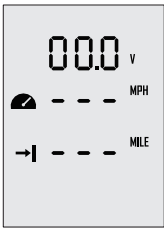

Figure 6-1
**Step1:** In power-on status, long press the “M” button to enter the preference setting page as shown in Figure 6-1. Users can choose display items based on personal needs and preference.
**Step2:** On the preference setting page, the blinking item is the object waiting to be set. Press the “ ▲ ” button to view options for the object item. For example, in Figure 6-1, if “V” is blinking on the preference setting page, it means that “V” has other alternate options. Just press the “ ▲ ” button, and “V” will switch to “%”, i.e. the displayed item is switched from voltage to battery level.